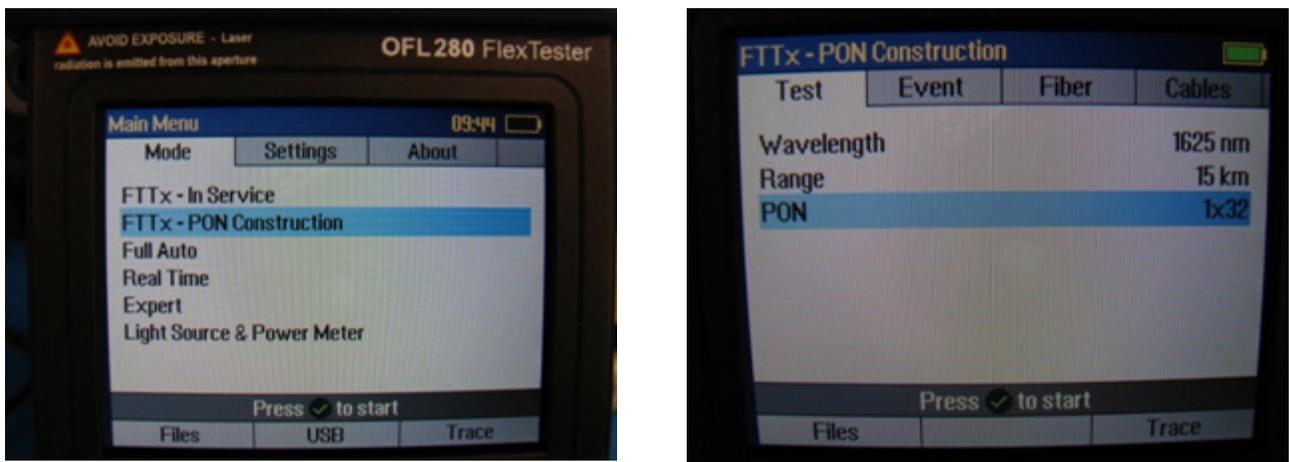

Figure 4: From Main Menu (Left) Select FTTx – PON Construction Setup (Right)
1. From the main menu, select **FTTx -- PON** Construction mode. The **OFL280-103** will prompt the user to configure the test Wavelength(s), distance Range, and the PON split ratio, as shown in Figure 4.